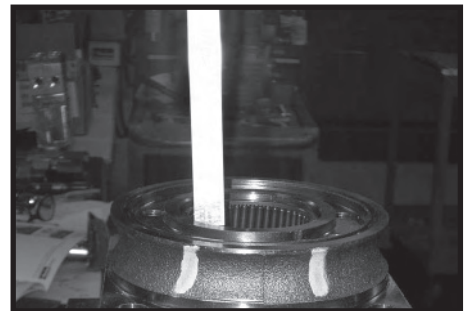

Figure 29
**NOTE: The depth or location of bearing/bushing (13) in relation to the housing wear plate surface and the depth or location of bearing/bushing (19) in relation to the beginning of bearing/bushing counter bore should be measured and noted before removing the bearings/bushings. This will facilitate the correct reassembly of new bearings/bushings. SEE FIGURE 29.**